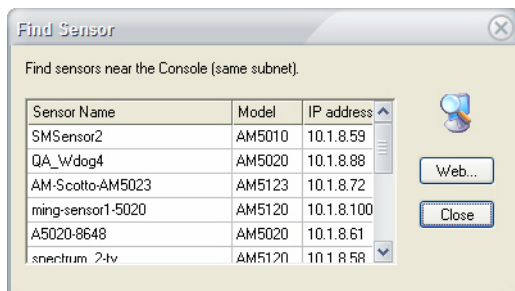

Figure 4-46: Finding sensors close to the Console
- 1) From the Manage Sensor screen, click  (Find Sensor). The Find Sensor dialog box appears. See Figure 4-46.